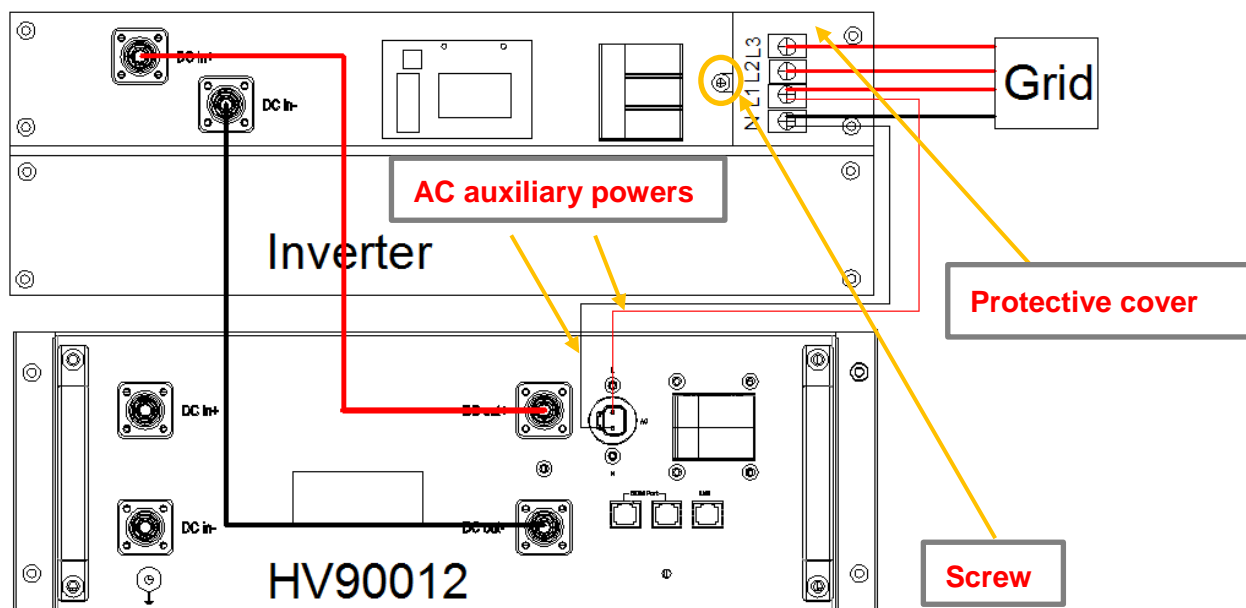

Figure 4.13 AC auxiliary power cables connection
Step 2: Remove the power cable bond from the packing list of cabinet and attach the cable bond to the power cable from the grid as shown in Figure 4.13.